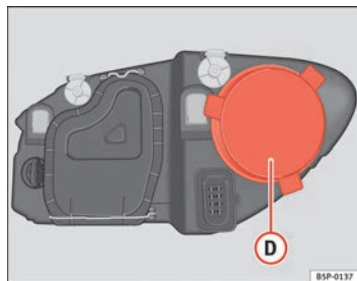

Fig. 189 Side lights
- Remove the cover ⇒ fig. 189 ① by pulling on this.